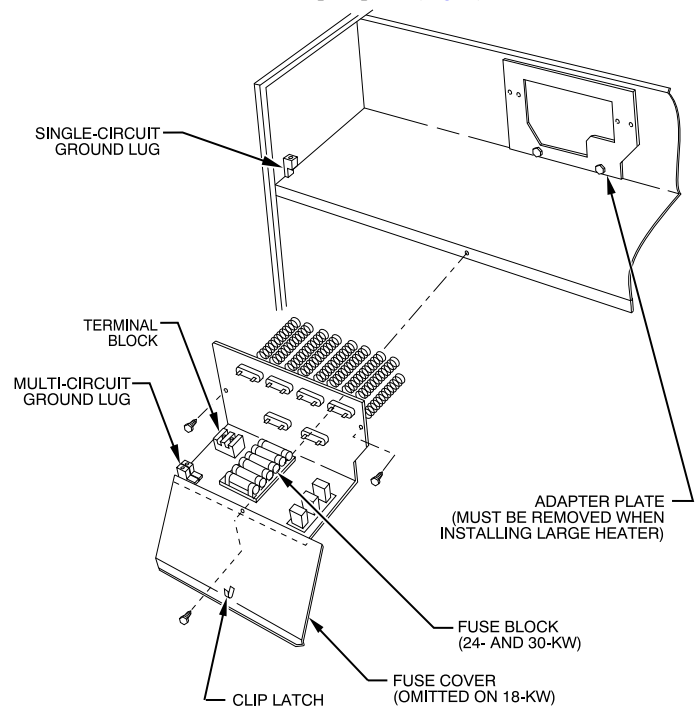

Fig. 6 – Installation of 18-, 24-, and 30-kW Model Heaters
13. Disconnect 2 power wires (black and yellow pigtail leads) from PCB or wire harness (if applicable) and discard. Wires may be part of a plug assembly or attached to terminals L1 and L2. Remove cooling control plate from fan coil (if equipped). For 18-, 24-, and 30-kW heaters, remove adapter plate (Fig. 6).
15. Attach heater control plate to fan coil using 2 screws provided. For 18-, 24-, and 30-kW heater models, attach front of heater to fan deck using third screw (Fig. 6).
Fuse assembly is mounted on heater. Be sure fuse cover is closed by engaging clip latch on unit top panel (Fig. 6).